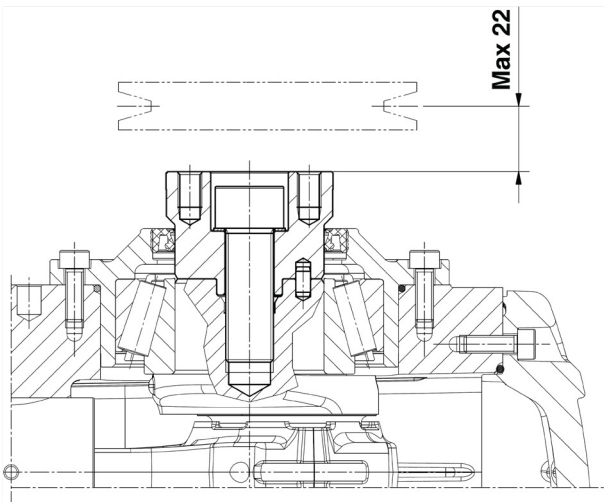

Fig. 13
By the means of the V-belt, the transmission is considered suitable if: belt pull is applies at a max distance of 0.87 in. (22 mm) from the bend shaft shoulder fig. 13. Min diameter of pulley to be used = Ø 3.94 (100).